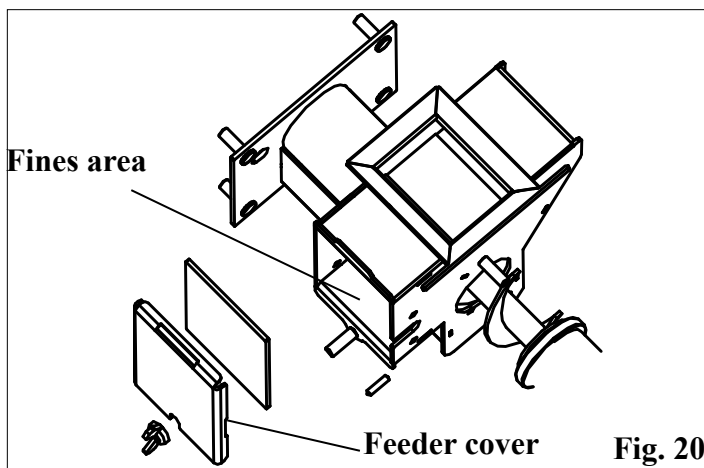

Fig. 20
Feeder Chamber (Fig. 20):
- Inspect and clean the inner chamber if necessary. See Fig. 20.